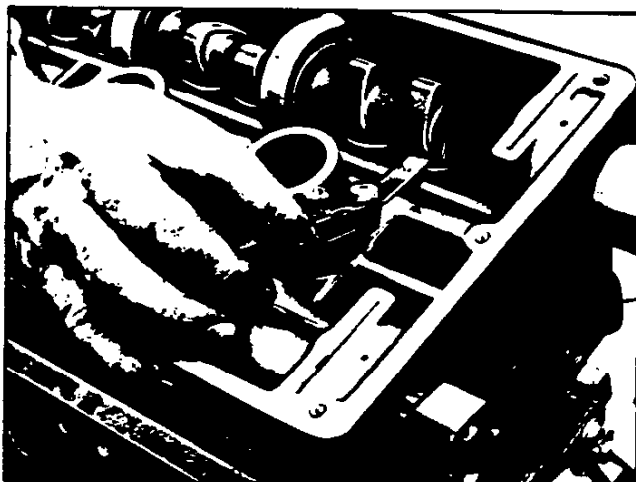

Fig. 5—Measuring Valve Lash
- c. Use a leaf-type feeler gauge and measure clearance between tappet and cam lobe. Record lash for each valve (fig. 5).